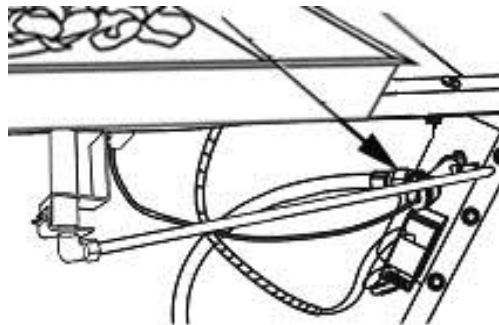

Figure 13
1. Disconnect the gas hose from the gas valve. See Fig. 13.